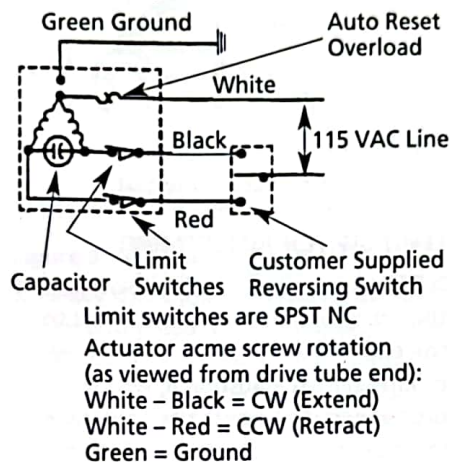

Figure 3 - Wiring Diagram
1. For proper motor connections, refer to the Wiring Diagram (Figure 3).
**CAUTION** Before operating actuator, refer to Wiring Diagram (Figure 3).